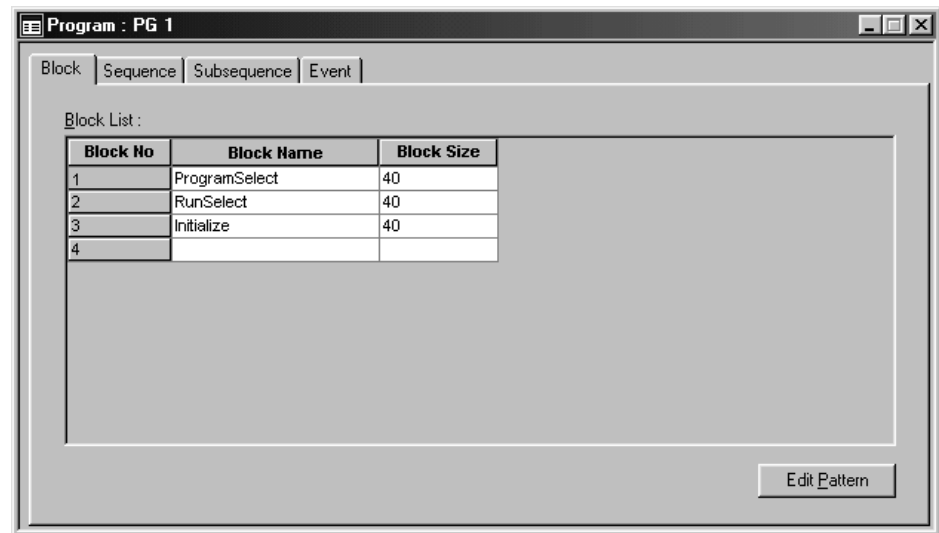

Figure 5–10: Program dialog box
1. From the System window of the Pattern Generator Application select the Program icon labeled Prog. Your display should look similar to Figure 5–10.
2. Select the Sequence tab in the Program window. Your display should look similar to Figure 5–11 on page 5–14.